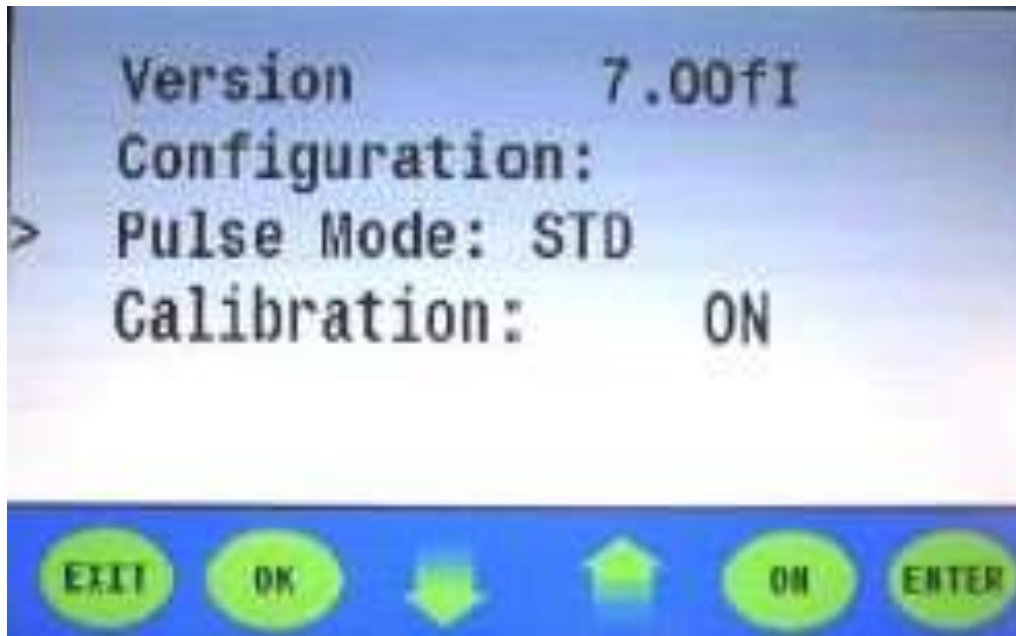

Figure 2
1. Press the Menu button. Next, scroll down to pulse mode and press Enter (figure 2).